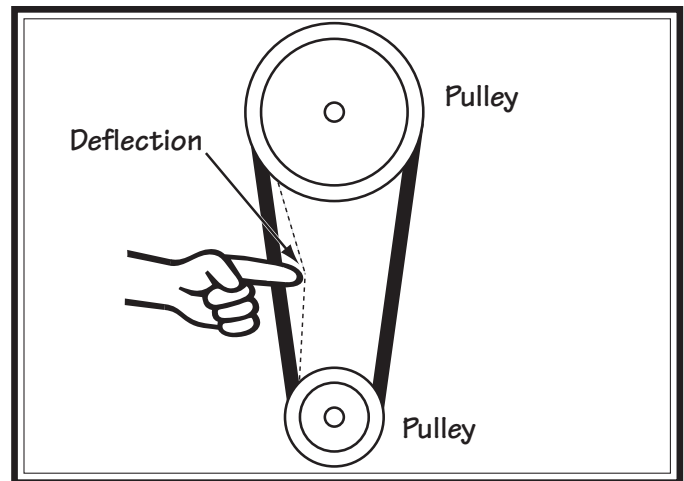

Figure 50. Belt deflection.
3. Release the motor and let its weight tension the belt. If necessary, apply downward pressure to the motor to further tighten the belt. When properly tensioned, the belt should deflect approximately ¼" when pressed with moderate pressure, as shown in **Figure 50**.